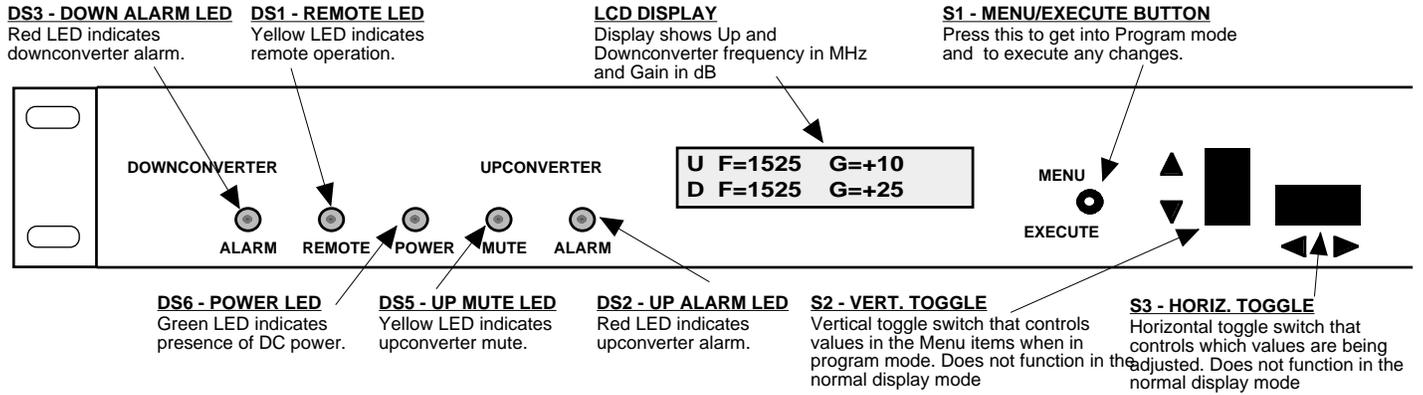

Figure 2.2 Model 2017-02 Front Panel Controls and Indicators
- 8.) Be sure DS6 (green, DC Power) is on and DS2 (red, Alarm) is off (Figure 2.2).
- 7.) Be sure DS6 (green, DC Power) is on and DS3 (red, Alarm) is off (Figure 2.2).
2.5.1 Functions - This section describes operation of the front panel controls. There are three operator switches, the LCD display and alarm indicator LEDs. All functions for the equipment are controlled by these components. The functions are (see Figure 2.2):
Alarm indications appear on the LEDs (see figure 2.2).